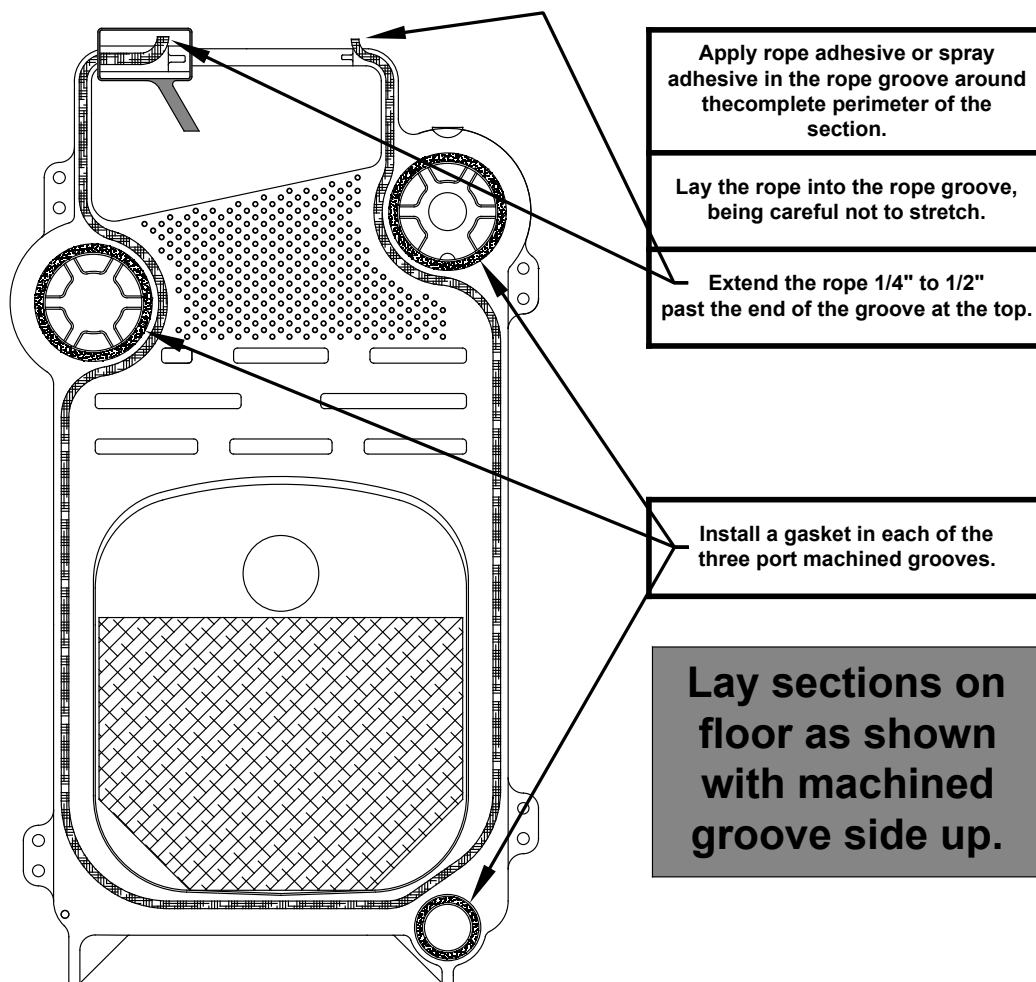

Figure 2.1: Lay Sections on Floor and Apply Rope Seal and Gaskets
3. Place the Back Section on the floor as shown in Figure 2.1.
6. Place a Flow Port Gasket in each of the three flow port recesses as shown in Figures 2.1 and 2.2.